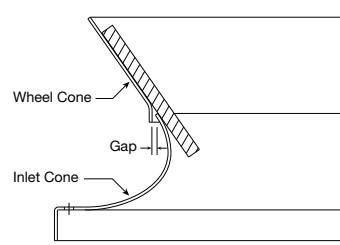

Fig. 10
3. Ensure proper wheel settings for radial gap and alignment. See Fig. 10 on page 4.
3. Rotate the fan wheel by hand and assure no parts are rubbing. The wheel should rotate freely and be aligned as shown in Fig. 10. Wheel position is preset and the unit is tested at the factory. Movement may occur during shipment, and realignment may be necessary. Nominal Gap dimension is equal to 1/8 inch.
Alignment* - If necessary, adjust wheel position by loosening the wheel hub from the fan shaft so that a straight edge held tight to the wheel cone just touches the inlet cone. Refer to Fig. 10.